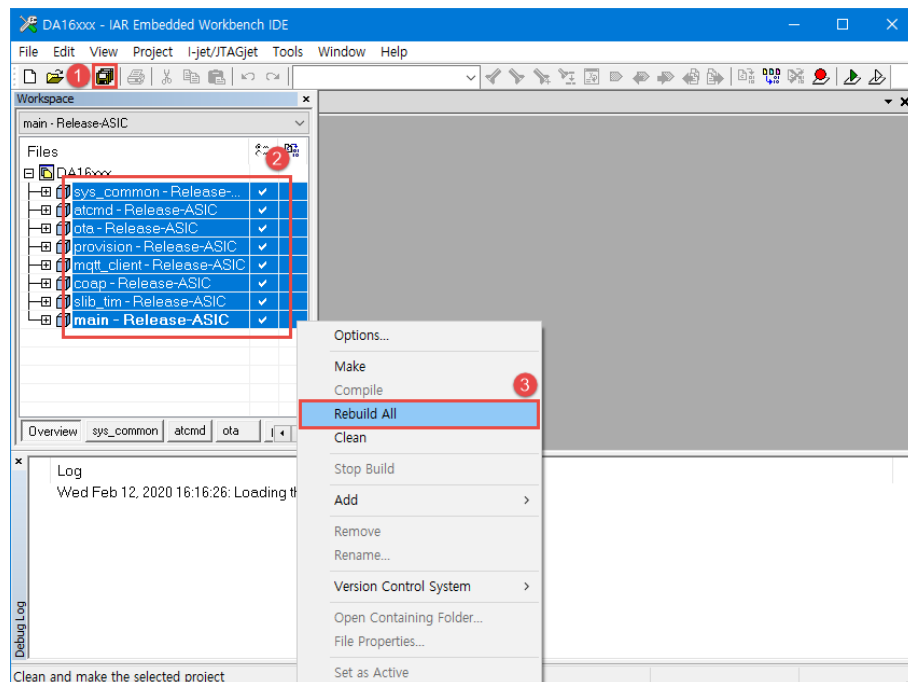

Figure 43: Rebuild SDK
5. Rebuild the SDK. See Figure 43.